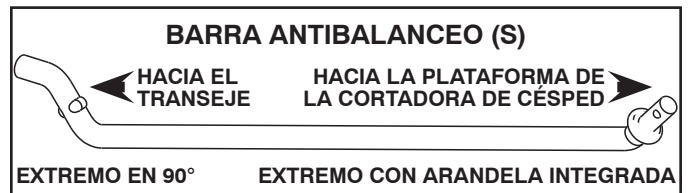

Fig. 8
5. SI LA TIENE, INSTALE LA BARRA ANTIBALANCEO (S) (Vea Fig. 8 - 9)